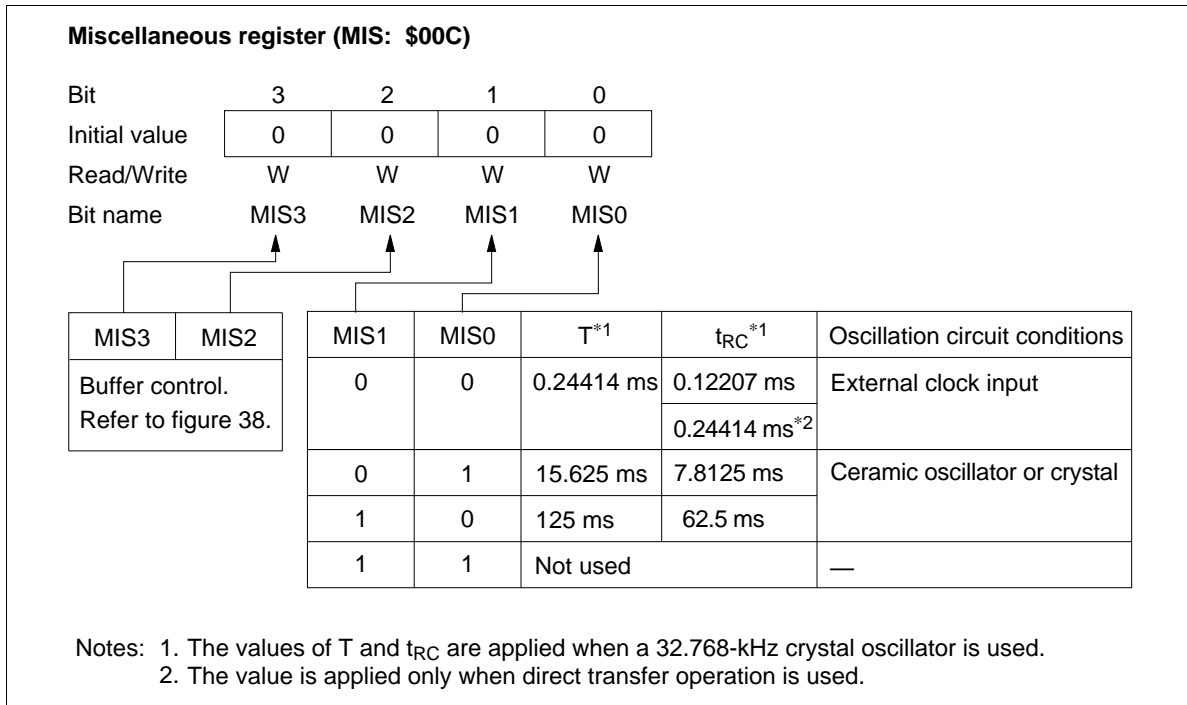

Figure 18 Miscellaneous Register (MIS)
Interrupt Frame: In watch and subactive modes, ϕ_{CLK} is applied to timer A and the \overline{INT}_0 circuit. Prescaler W and timer A operate as the time-base and generate the timing clock for the interrupt frame. Three interrupt frame lengths (T) can be selected by setting the miscellaneous register (MIS: \$00C) (figure 18).